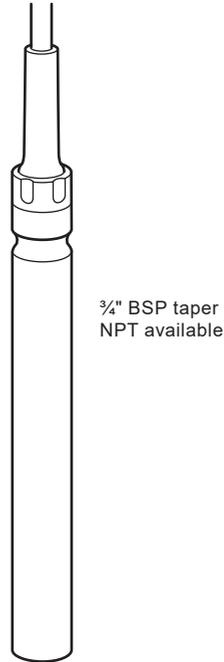
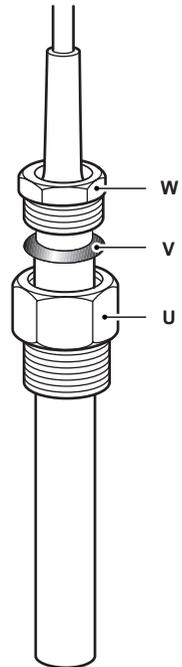
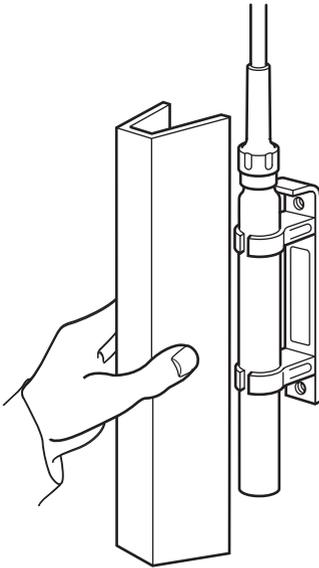

Fig. 4
Fig. 5
Fig. 8
The type DP17T control is fitted with a plain bulb as in Figure 4, but as an optional extra this bulb is supplied with an adaptor shown in Figure 5, consisting of a union nipple (U), 'O' ring (V) and gland nut (W).
Where it is desired to use a plain bulb as in Figure 4 the adaptor can be removed by unscrewing the gland nut (W) from the union nipple (Figure 5) and withdrawing each piece of the assembly separately over the bulb.
Insert the bulb through the union nipple (U) until the 'O' ring (V) seats in the union nipple as shown in Figure 5 and screw home the gland nut (W) to compress the 'O' ring. The gland nut needs to be little more than finger tight. Do not overtighten otherwise damage to the 'O' ring will result.
Where the type DP17T control is to be used to control from room temperature the plain bulb Figure 4 is used and a bracket and protective shield is provided Figure 8.